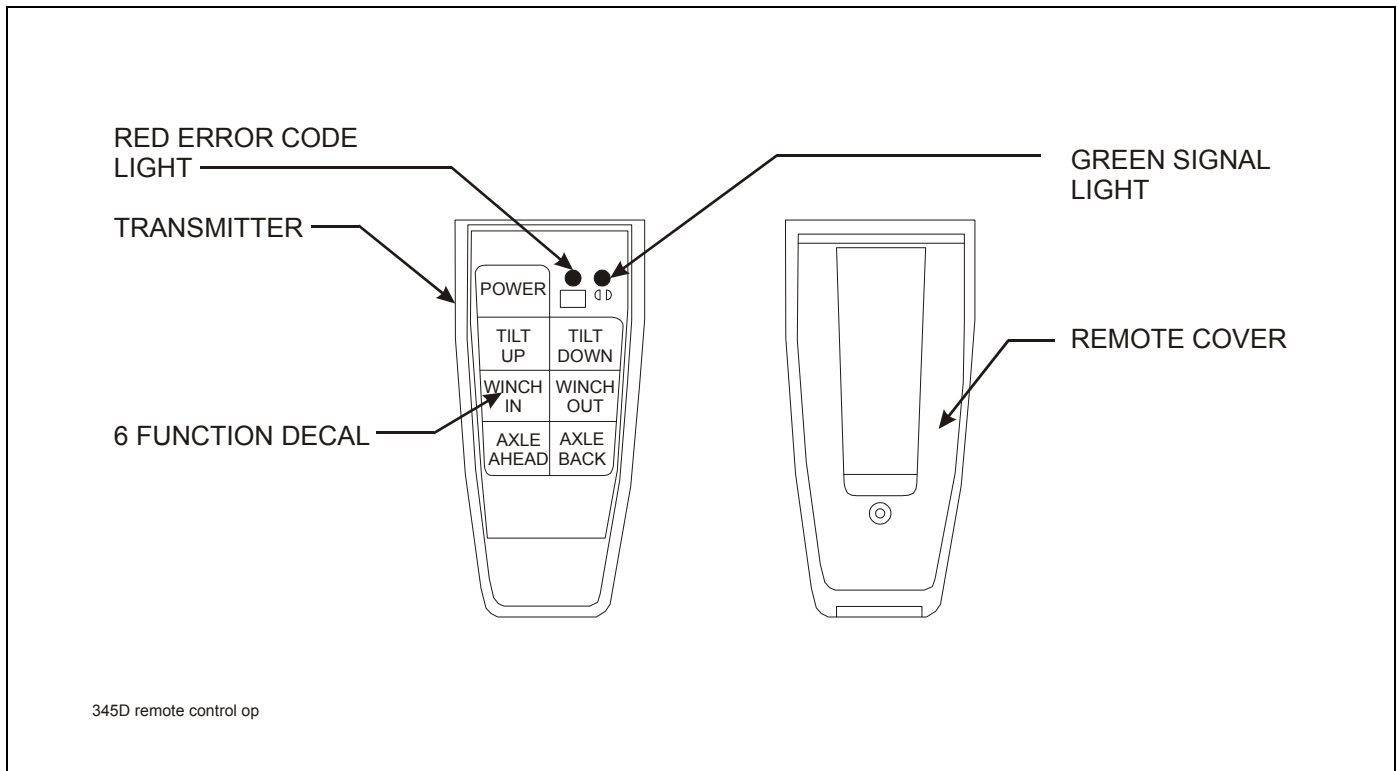

Figure 3-8: Remote Control
1. A wireless six function radio remote control is available (**See Figure 3-8.**)